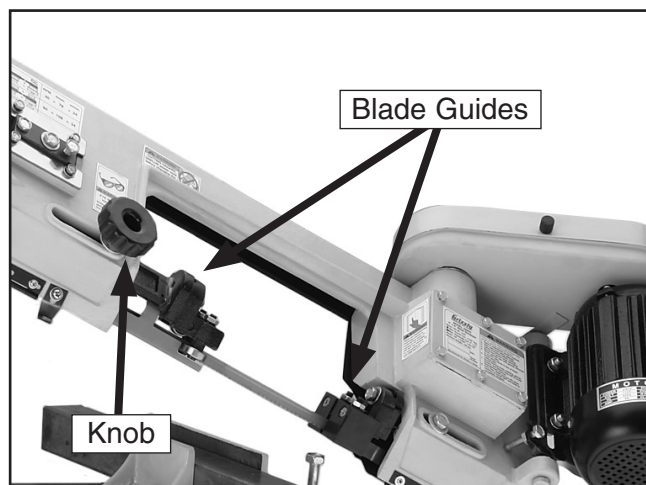

Figure 28. Blade guides.
1. Loosen the knob shown in **Figure 28** and slide the blade guide as close to the workpiece as possible, then tighten the knob.